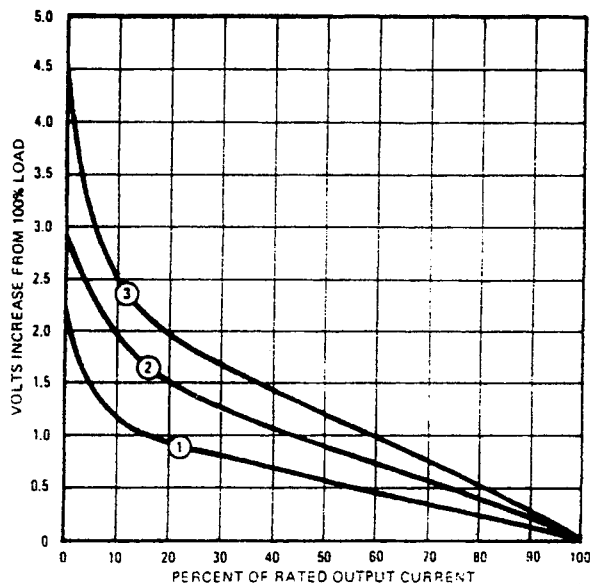

FIG. 2 TYPICAL LOAD EFFECT CURVES FOR PRR MODELS
LOAD EFFECT: See Table 1 and applicable load effect curve in FIG. 2.
OUTPUT VOLTAGE ACCURACY: Within $\pm 2\%$, or 0.25V, whichever is greater, of the specified output voltage, at nominal source voltage, 30°C ambient temperature, at maximum load and following a 30-minute warm-up period. Allow for an initial (cold) voltage approximately 1% higher than the specified output voltage accuracy. The output voltage increase at output current levels less than the maximum rated may be read from the load effect curves (FIG. 2) and must be added to the nominal output level.
- OUTPUT IMPEDANCE:** The impedance at d-c and at frequencies below 10 KHz is a function of the load effect curves shown in FIG. 2. It may be determined from the slope of the plotted curves ($Z_o = \Delta E_o / \Delta I_o$). The output impedance at frequencies above 10 KHz can be computed by adding the effect of a 2 μ H series inductance to the low frequency value found in FIG. 2.